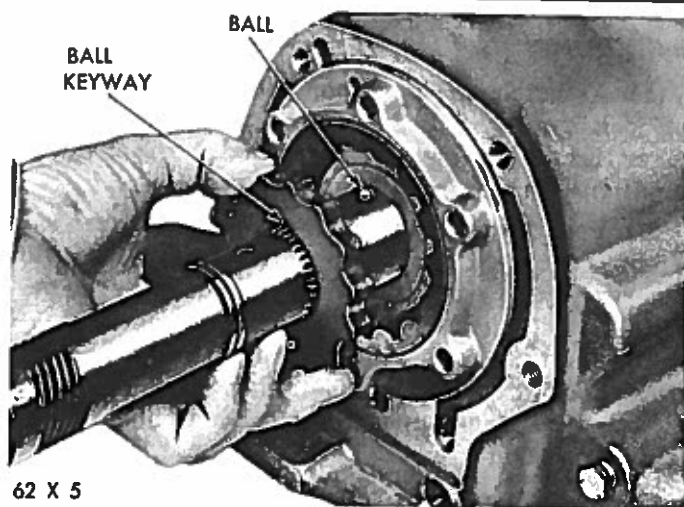

Fig. 34—Removing or Installing Rear Oil Pump Inner Rotor
(1) Remove the extension housing. See Paragraph 23.
(2) Remove the governor and parking sprag. See Paragraph 24.
(3) Unscrew the rear oil pump cover retaining bolts and remove cover.
(4) The oil pump inner rotor is keyed to output shaft by a small ball, therefore, use care in sliding out inner rotor so as not to lose the ball (Fig. 34). Remove outer rotor from the pump body.
- (1) Place outer rotor in the pump body.
- (2) Turn output shaft so inner rotor driving ball pocket is up. Install the ball and slide inner rotor on the output shaft in alignment with the ball (Fig. 34).